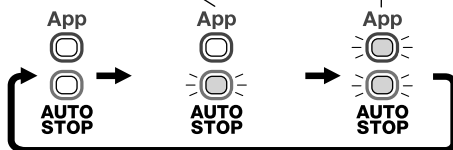

Fig. 21
(2) Auto stop mode selector switch (**Fig. 21**)